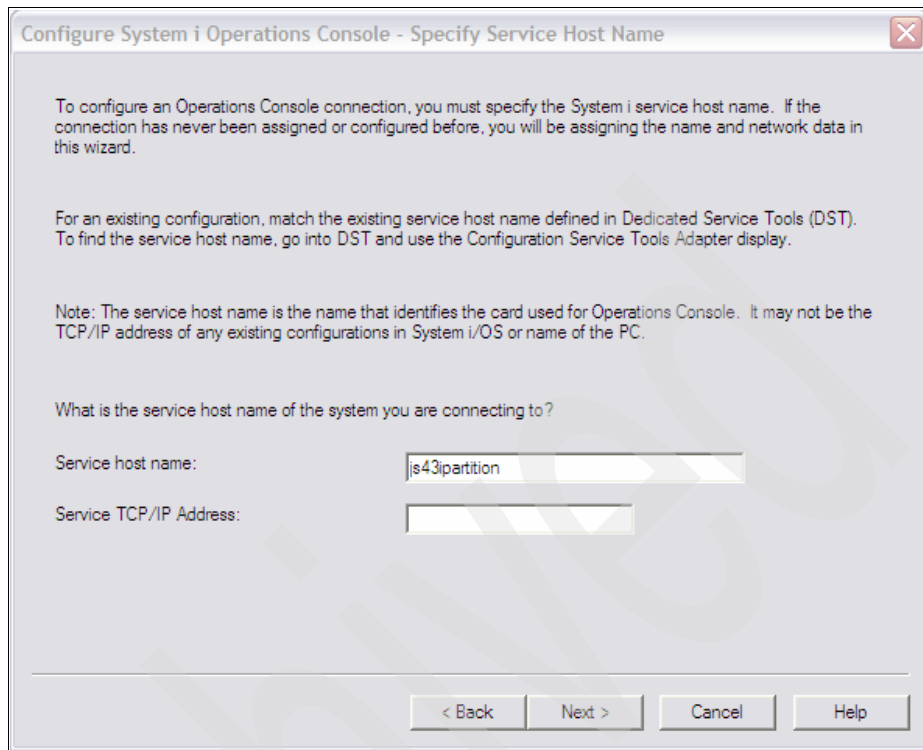

Figure 7-37 IBM System i Operations Console - enter the Service host name
5. The System i service host name must be defined first to establish a connection to the BladeCenter JS23/JS43 blade; see Figure 7-37 on page 277.